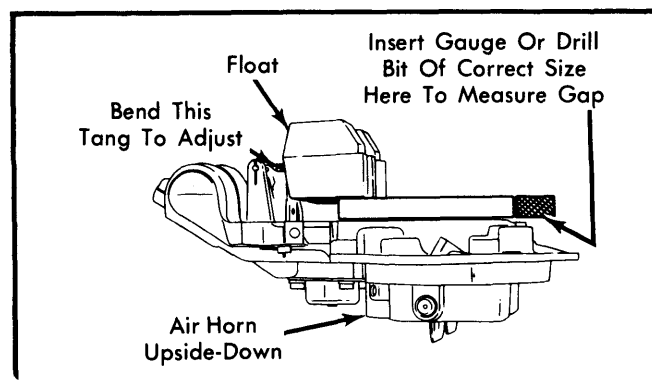

Fig. 1 Adjusting Float Level
1) With air horn removed, turn upside down. Allow weight of float to press down against float needle valve. See Fig. 1.